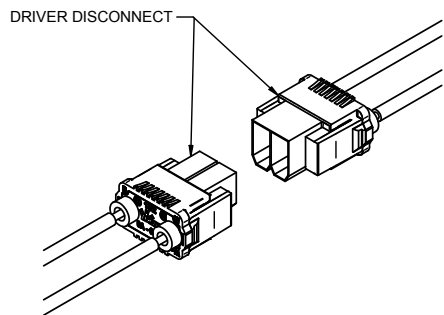

Figure 3
4. Connect both halves of Driver Disconnect. (See Figure 3)